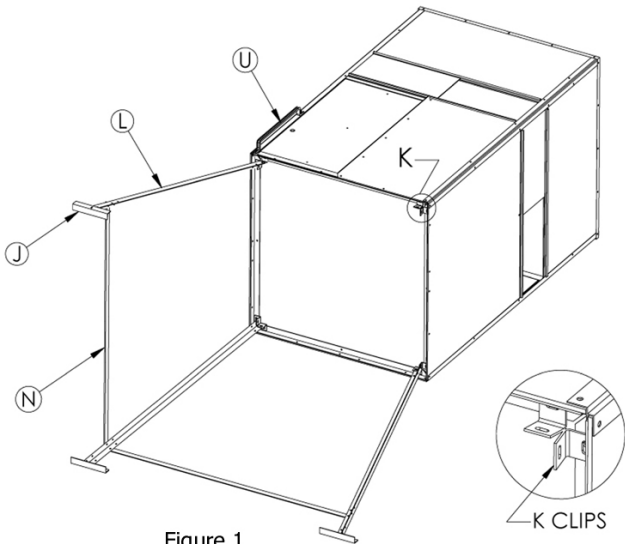

Figure 1
1. Remove the (K) clips from this package and assemble the blind, being sure to install these clips according to the blind instructions. (Fig. 1)
3. Attach the (U) handle to the (S) corner post nearest the door opening. Remove the first and second bolts from the bottom of the (S) corner post. Position the (U) handle and attach by reinstalling the bolts. (Fig. 1)
4. Attach the (L) Legs to (K) K-Clips using (N) Horizontal Bracing as necessary for support. (Fig. 1)